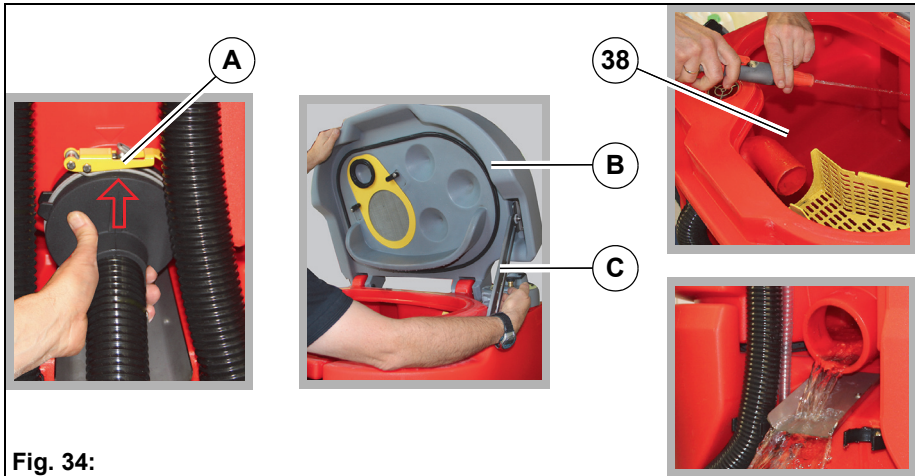

Fig. 34:
2. Open fastener at drain hose **Fig. 34-A** and remove hose.
3. Open the tank cap **Fig. 34-B** of the waste water tank.
- Open the tank cap until the support **Fig. 34-C** engages.
4. Clean the waste water tank thoroughly with the water hose/spray nozzle **Fig. 34-D**.
- Release the support **Fig. 34-B** with your right hand and close the tank cap.